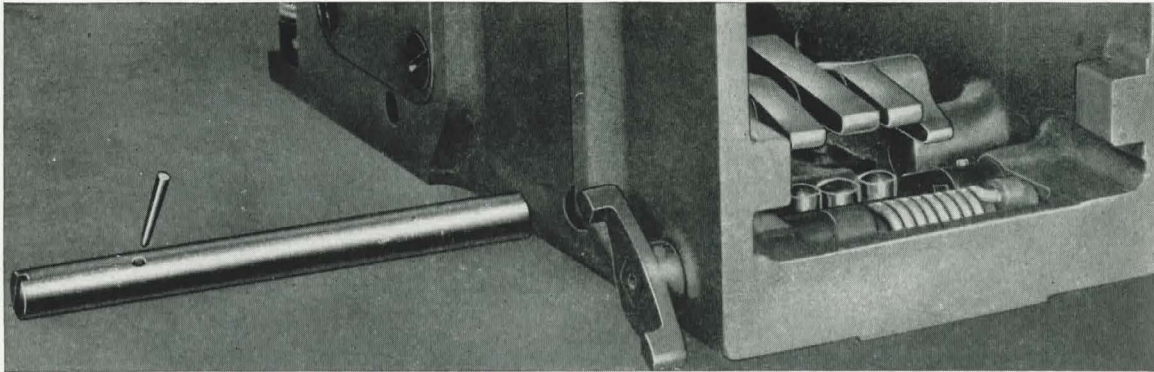

Figure 67
- (c) Tap out the bearing pin and remove the loader catch lever (inboard), tray catch lever (center), and the trigger catch lever (outboard), **Figure 67**.
- (3) Remove the intermediate control spindle and arms.
- (4) Remove the rocker arm.